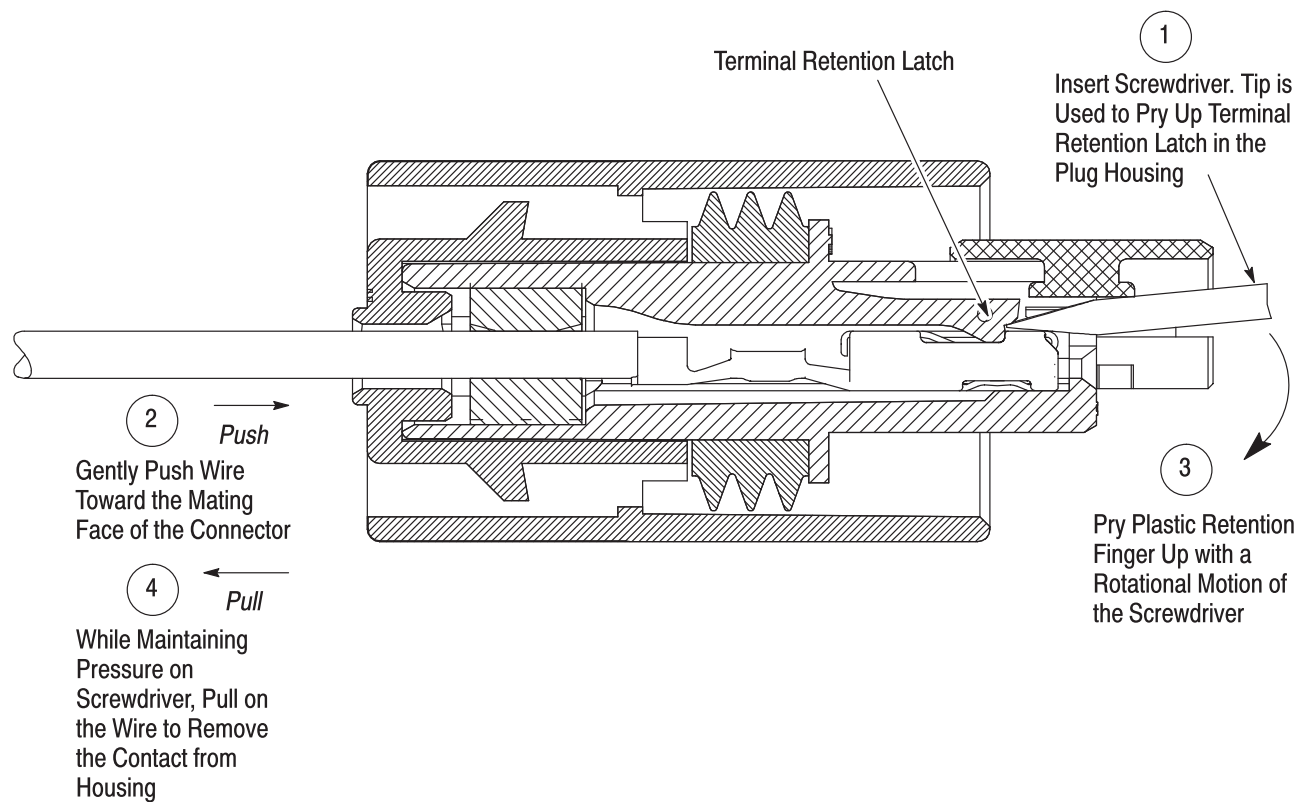

Figure 11
5. Using the 0.8 mm – 1.0 mm flat-bladed screwdriver, gently deflect the retention finger. See Figure 11.